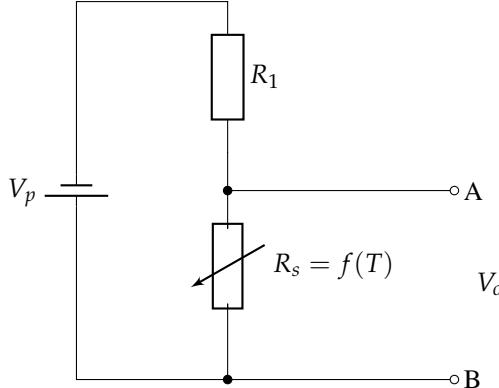

Figure 36: Simple electrical circuit to convert temperature  $T$  to voltage  $V_o$  that can be measured.
- In the circuit shown in Figure 36, how would you choose the values of  $V_p$  and  $R_1$ ?
For the circuit in Figure 36, we can compute  $R_o$  using Thevenin's theorem: